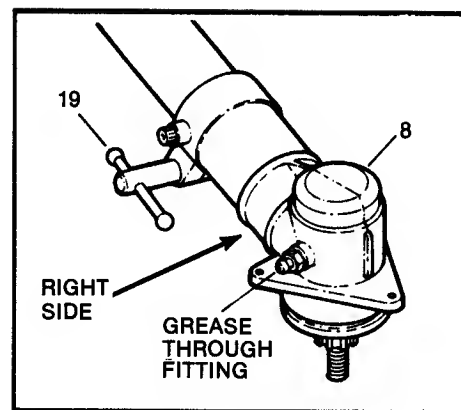

FIG. 10 - GEAR HEAD
1. Remove the grease fitting on the RIGHT side of gear head housing and check the level of lubricant. Securely reinstall the fitting and using a hand type grease gun, add quality lithium base #2 multi-purpose grease when required. Refer to FIG. 10.